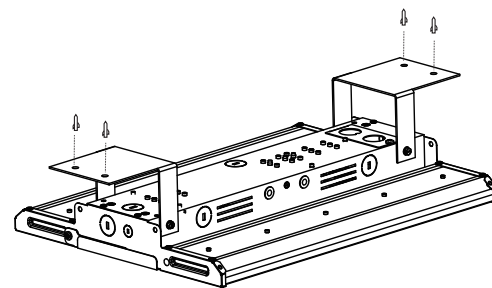

Figure 4
- Install the fixture with brackets into the ceiling using appropriate hardware (not provided). (Figure 4)